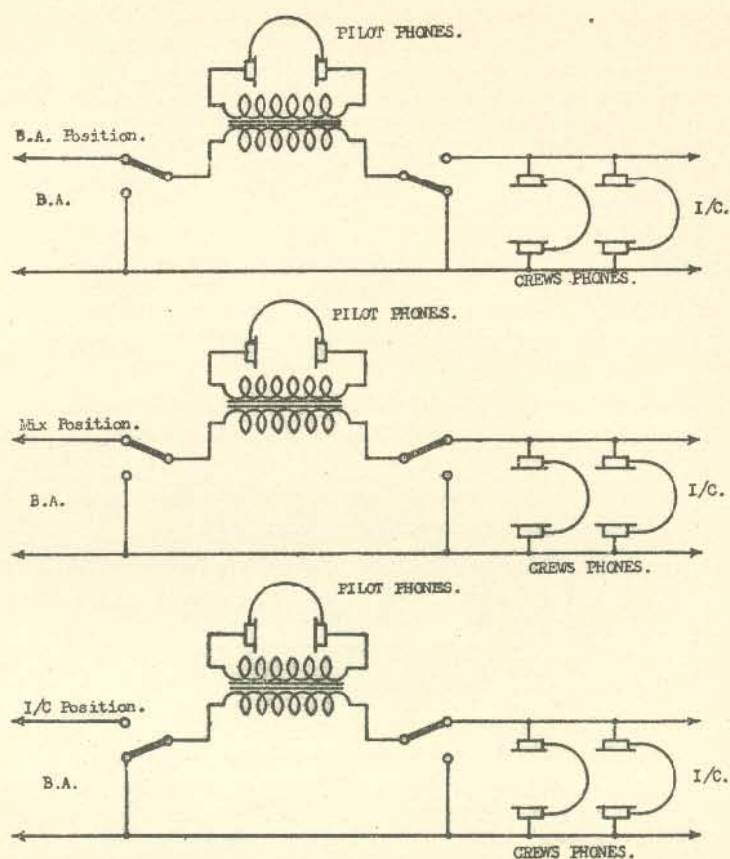

FIG. 88A.—Junction box, Type 9.
9. Junction Box Type 9, or Mixer Box (fig. 88A).—Only used in large aircraft where i/c is essential at all times. A three-position switch gives the following arrangements:—